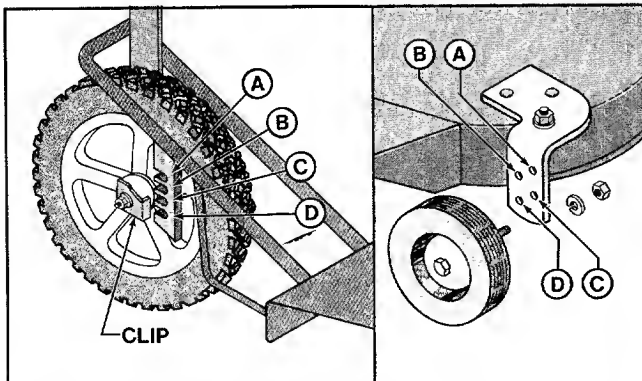

Figure 5-5: Wheel height adjustment positions.
C. Using a 9/16" wrench, loosen, but do not remove, the inside and outside flanged lock nuts that secure the rear wheels in place. See Figure 5-5. Remove the wheels and replace them in the same corresponding slots (A, B, C or D) on both sides.
E. Using 9/16" and 3/4" wrenches, remove the nut and lockwasher from each front wheel, leaving the mounting bolts in place. See Figure 5-5. Remove the wheels and replace them in the same corresponding